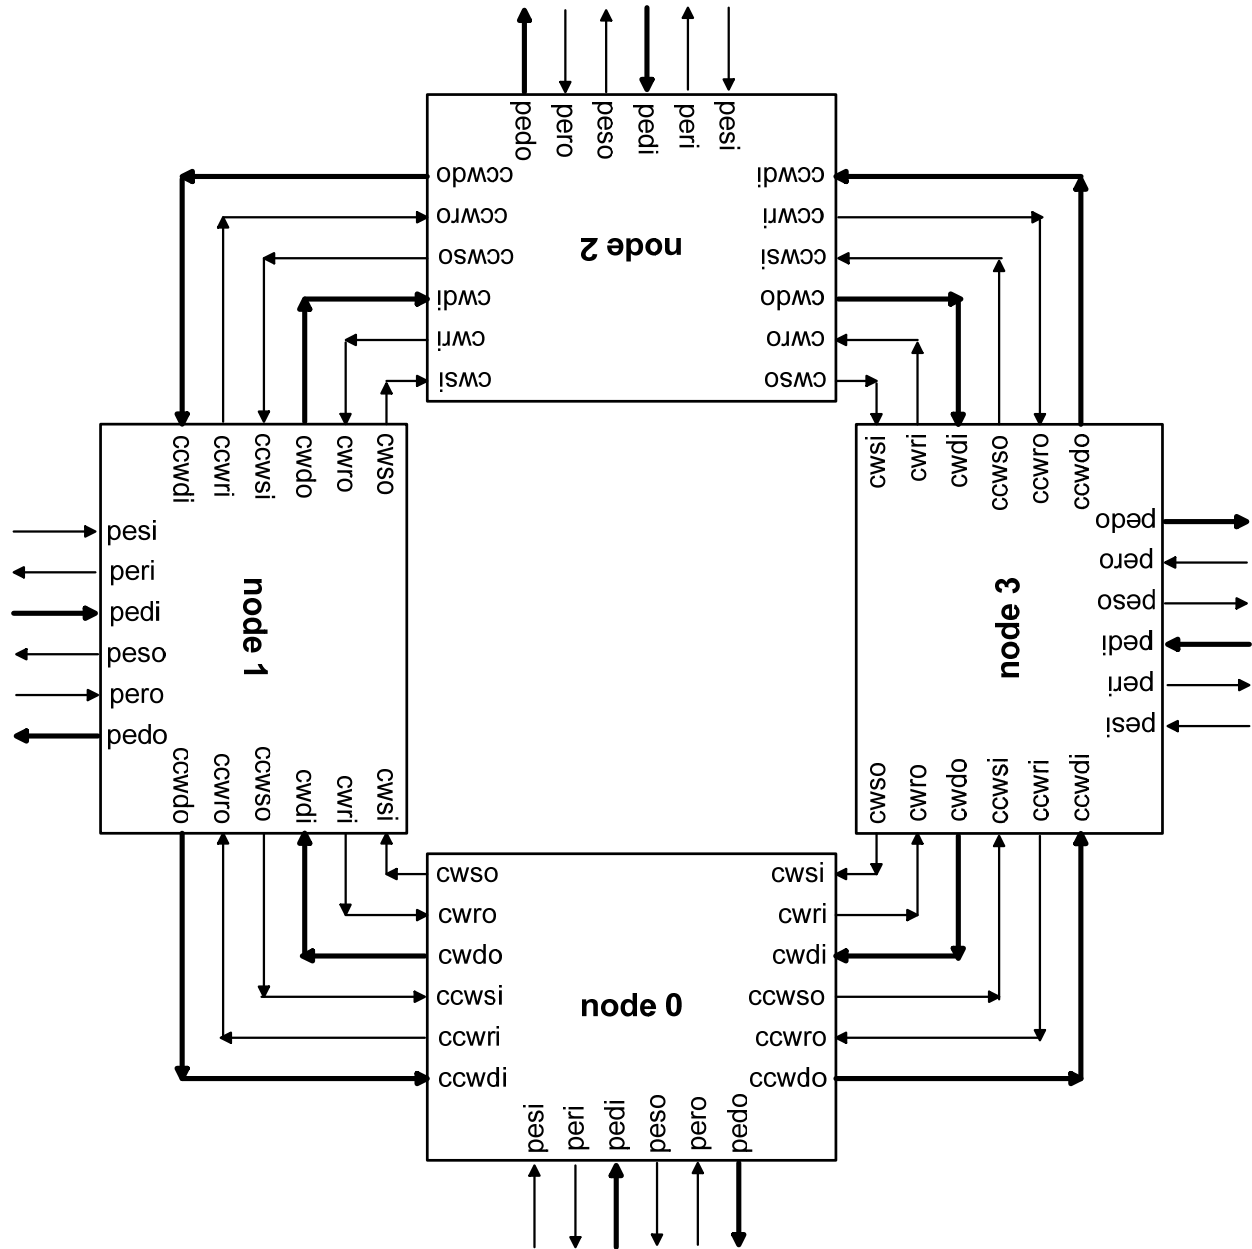
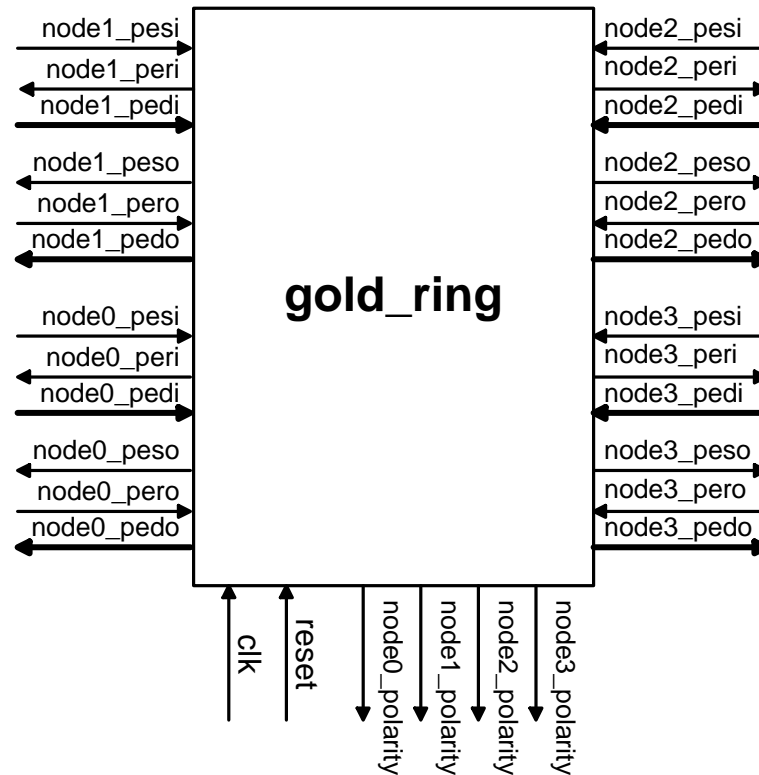

Figure 1: Gold 4-Node Ring Connections
Figure 2: Top-Level Ports of the gold_ring Module
2. Write RTL verilog code that correctly implements all the functionality detailed in the architecture specification. Make sure to use a top-level module name of "gold_router" and top-level port names consistent with the inputs/outputs shown in Figure 1 of the architecture specification so that any testbenches we use to test your router will be compatible without alteration.
6. To further confirm the operational capability of your router, construct a 4-node ring network by instantiating your router 4 times and making connections as shown below in Figure 1. Name your top-level module "gold_ring".
Given the connections shown in Figure 1, the top-level ports of the “gold_ring” module are shown in **Error! Reference source not found..** Make sure to use these top-level port names as shown in Figure 2 so that any testbenches we use to test your ring network will be compatible without alteration.